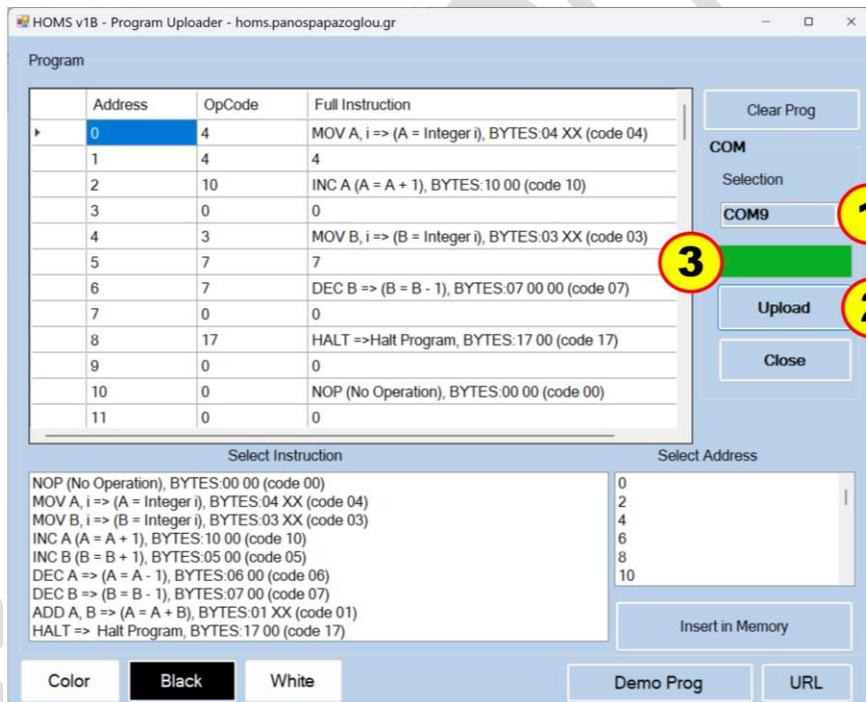

Fig. 5.13 Upload process
Firstly, we select the COM port where the memory unit (Arduino) is connected (1). The next step is to press the **Upload** button (2). The upload process is confirmed through the green bar (3). Figure 5.13 shows the above steps.